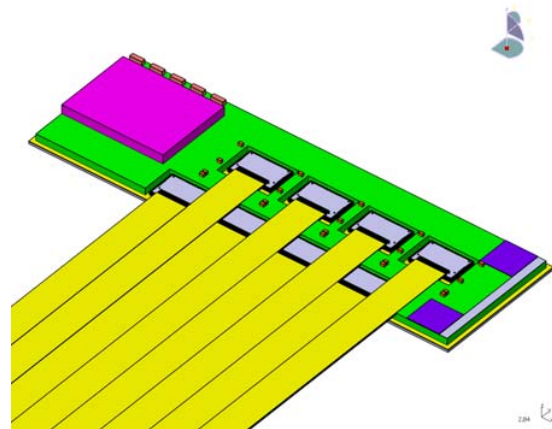

Figure 3: Assembly of sensor cables and FEB.
- Figure 3 depicts an assembly with FEB, ASICs and micro cables.